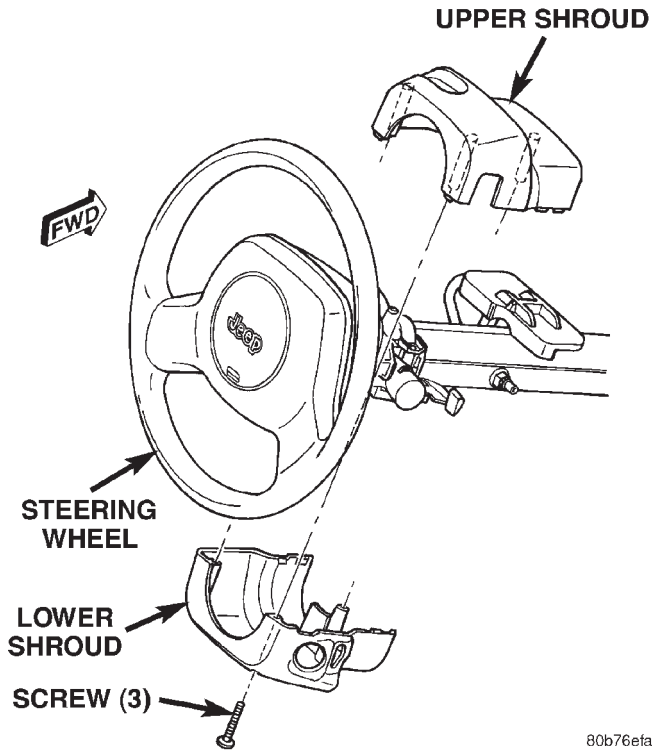

Fig. 13 Steering Column Shrouds Remove/Install
(1) Disconnect and isolate the battery negative cable.
(2) Remove the knee blocker from the instrument panel. See Knee Blocker in Group 8E - Instrument Panel Systems for the procedures.
(3) Remove the three screws that secure the lower steering column shroud to the upper shroud (Fig. 13).